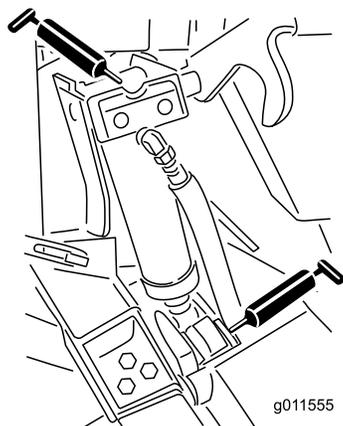

Figure 75
- 4 lift-cylinder bushings (Figure 75)